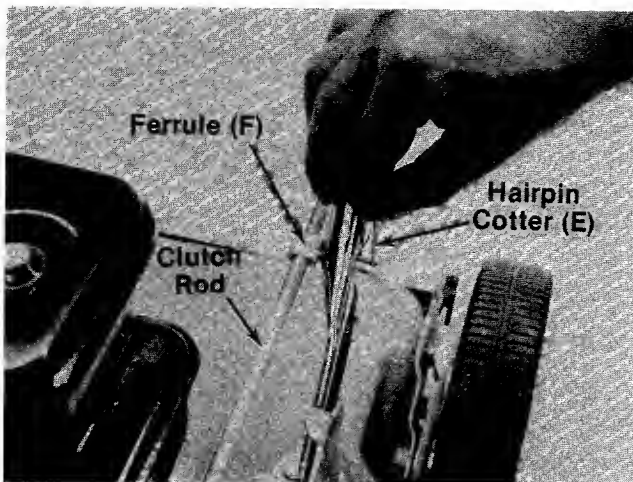

FIGURE 10.
16. Thread the clutch rod into the ferrule (F) until the ferrule lines up with the hole in the lower handle. Secure ferrule in handle with cotter pin (E) as shown in figure 10. Check for 1/8" clearance between drive pinion and front wheels. See clutch rod adjustment on page 10.
1. Remove the cotter pin. See figure 10.